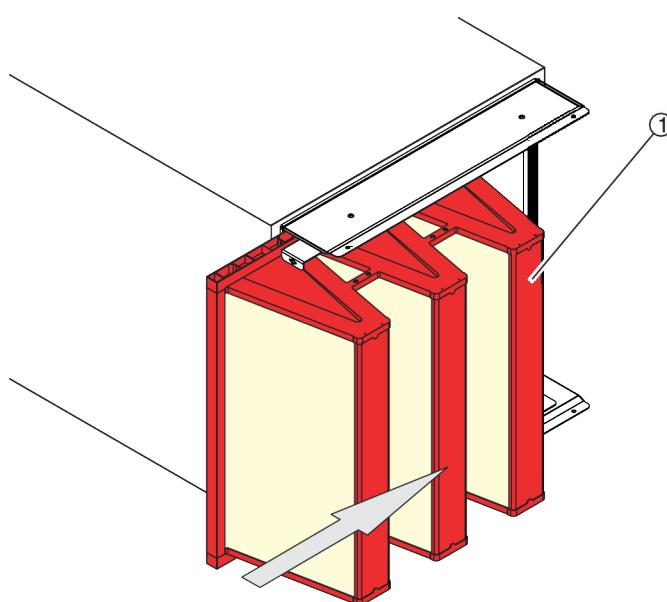

Fig. 26: Sliding in the filter element
6. ▶ Slide the filter element (Fig. 26/1) into the air handling unit from the side.